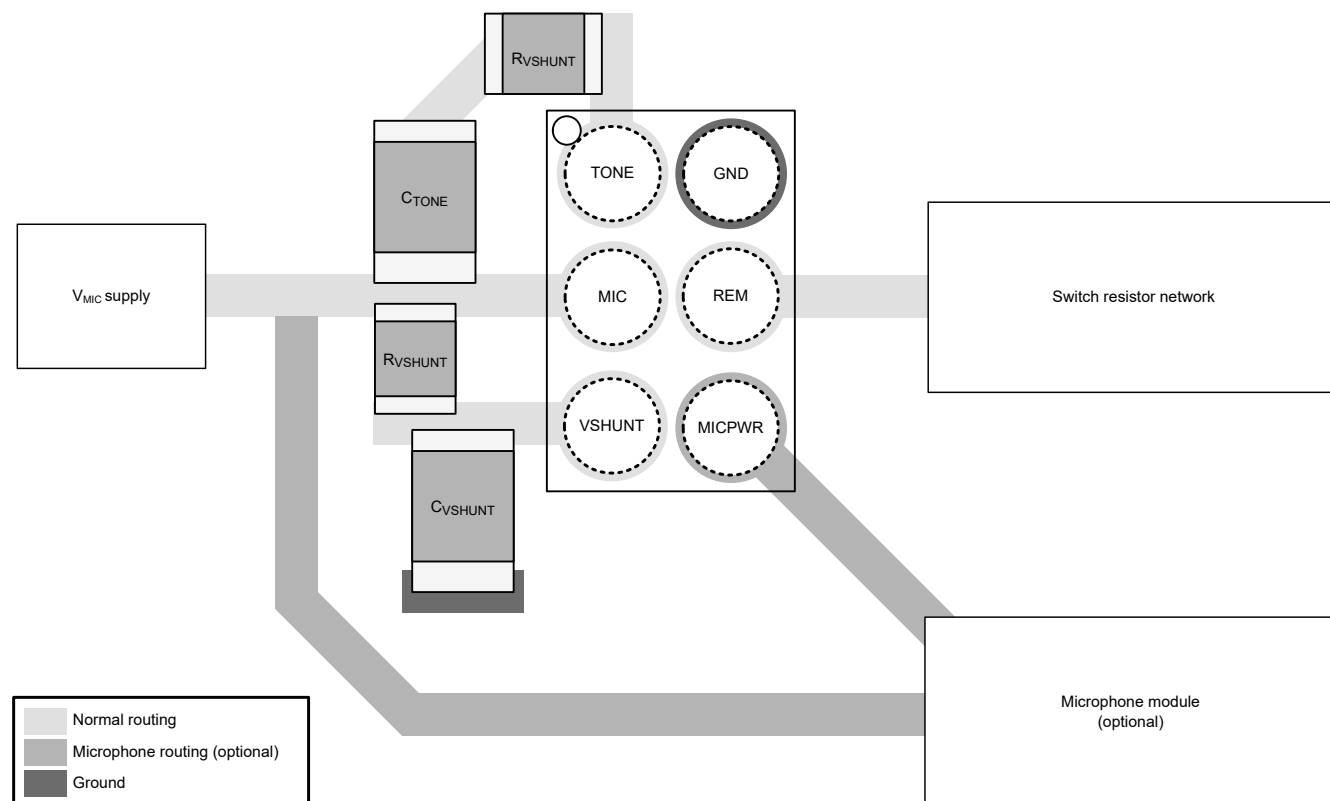

Figure 8-5. Layout Example
- See Figure 8-5 for the recommended layout of the CD326x, which is designed for common external GND connections. TI recommends placing all components as close as possible to the package pins. The recommended layout is implemented on the EVM and shown in the EVM user's guide.